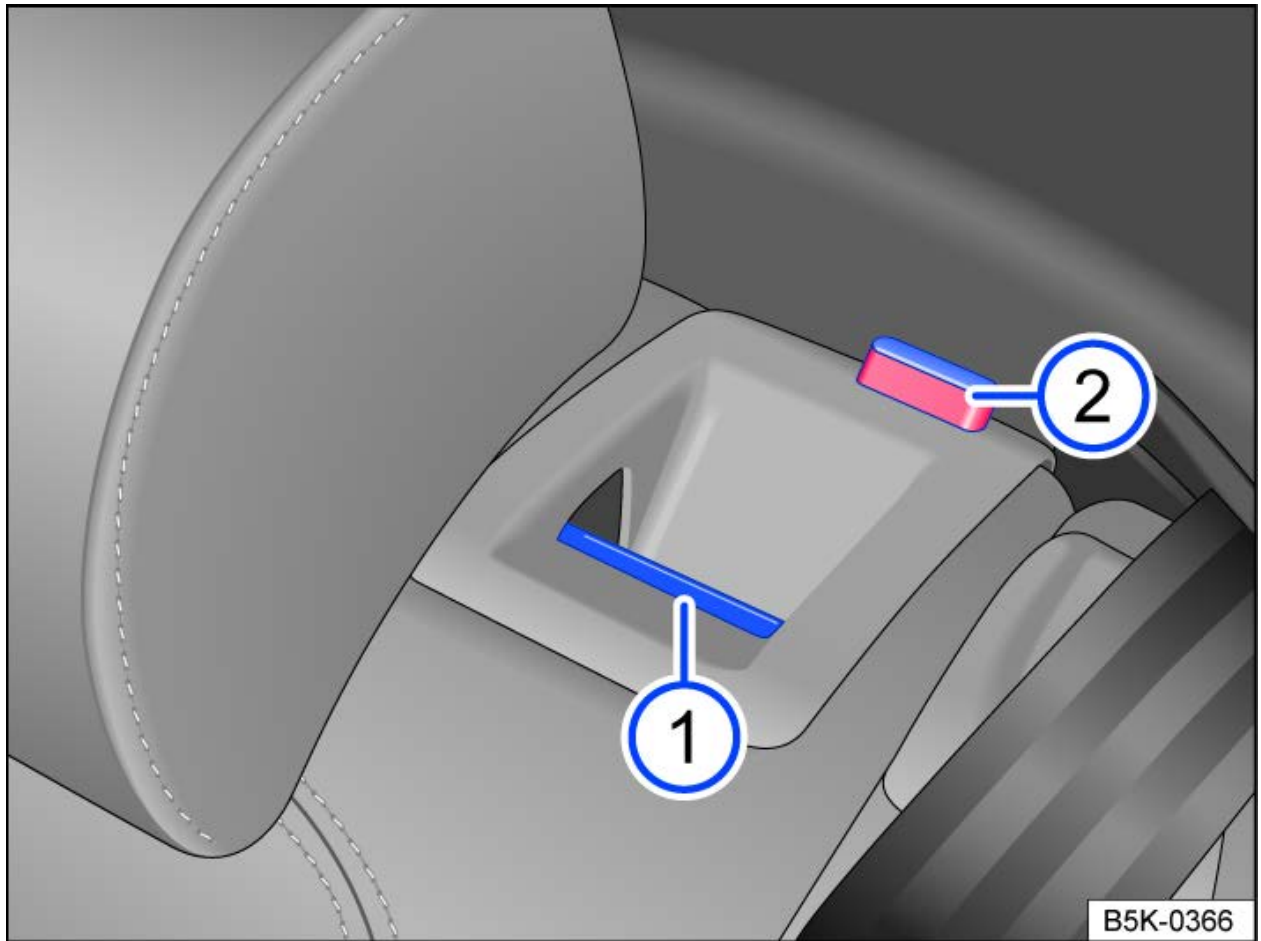

Fig. 1 In the rear seat backrest: release button.
- Pull the release button → *fig. 1* (1) forward while folding the rear seat backrest forward and down.
The respective backrest part of the rear seat backrest is released when the red marking → *fig. 1* (2) can be seen.
The red marking → *fig. 1* (2) may no longer be visible.